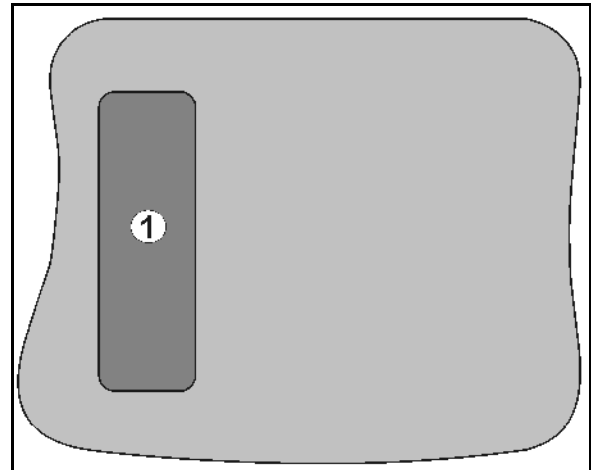

Fig. 8
- The shift key is located on the back of the unit  (Fig. 8/1).